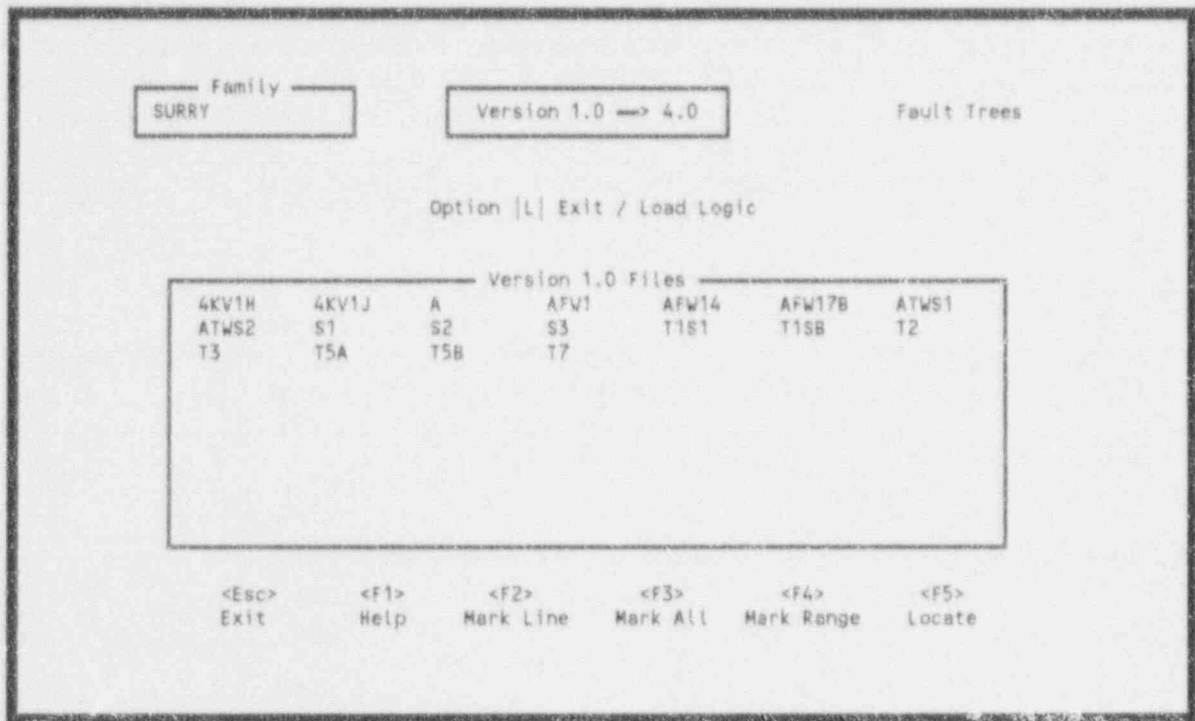

Figure 264. Fault tree selection screen.
11.5.2.2 Fault Trees. This option allows you to convert fault tree logic generated in Version 1.0 to Version 4.0. Version 1.0 of IRRAS stored this information in files with a ".TRE" extension, one ".TRE" file per fault tree. When you invoke this option, Figure 264 will be displayed, listing all 1.0 files with the ".TRE" extension. To invoke this option for a single logic file, enter an <L> in the option field, highlight the desired file name, and press <Enter>. To invoke this process for a group of logic files, mark the desired files using the function keys F2, F3, and F4, enter an <L> in the option field, and press <Enter>. To invoke this option for all logic files, clear all marked entries, enter an <L> in the option field, and press <Enter>. A message **Process all records? (Y/N)** will appear at the bottom of the screen. Type a <Y> to convert all files, or type an <N> to terminate the conversion.
11.5.2.3 Cut Sets (FT). This option allows you to convert system cut sets generated in Version 1.0 to Version 4.0. Version 1.0 of IRRAS stored this information in files with a ".CUT" extension, one ".CUT" file per system. When you invoke this option, a screen similar to the one shown in Figure 264 will be displayed, listing all files with the ".CUT" extension. To invoke this option for a single cut set file, enter an <L> in the option field, highlight the desired file name, and press <Enter>. To invoke this process for a group of cut set files, mark the desired files using the function keys F2, F3, and F4, enter an <L> in the option field, and press <Enter>. To invoke this option for all cut set files, clear all marked entries, enter an <L> in the option field, and press <Enter>. A message **Process all records? (Y/N)** will appear at the bottom of the screen. Type a <Y> to convert all files, or type an <N> to terminate the conversion.
11.5.2.4 Sequence Cut Sets. This option allows you to convert sequence cut sets generated in Version 1.0 to Version 4.0. Version 1.0 of IRRAS stored this information in files with a ".CUT" extension, one ".CUT" file per sequence. When you invoke this option, a screen similar to the one shown in Figure 264 will be displayed, listing all files with the ".CUT" extension. To invoke this option for a single cut set file, enter an <L> in the option field, highlight the desired file name, and press <Enter>. To invoke this process for a group of cut set files, mark the desired files using the function keys F2, F3, and F4, enter an <L> in the option field, and press <Enter>. To invoke this option for all cut set files, clear all marked entries, enter an <L> in the option field, and press <Enter>. A message **Process all records? (Y/N)** will appear at the bottom of the screen. Type a <Y> to convert all files, or type an <N> to terminate the conversion.